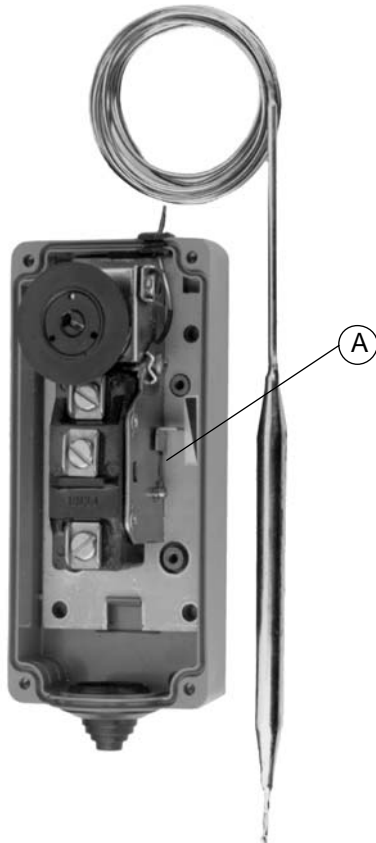

Fig.1
The dial set point indicates the low switch point (1 - 2 open, 1 - 3 closed). The high switch point (1 - 2 closed, 1 - 3 open) is obtained by adding the differential to the low switch point. Adjustable differential models can be adjusted by means of the differential adjustment lever (A). (See Fig.1)